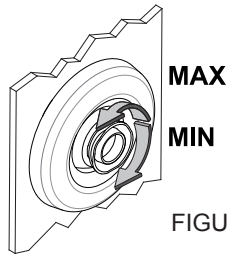

FIGURE 3
- Make sure that the jets are open, otherwise turn the diffuser anticlockwise (Figure 3).